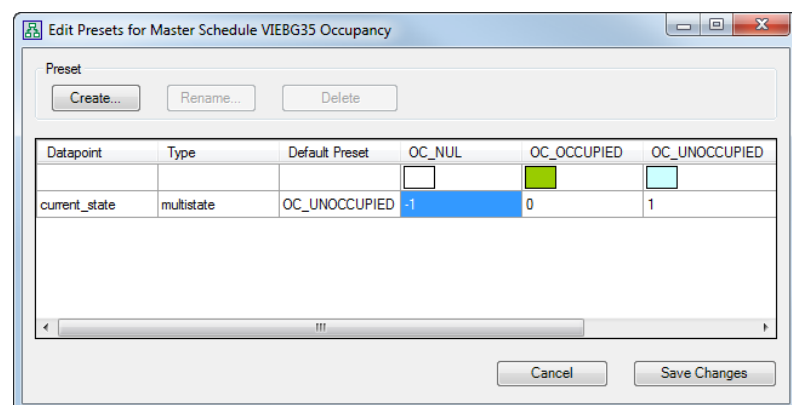

Figure 135: Preset Definition
3. Click on the **Create** button to add a new presets (see Figure 135).